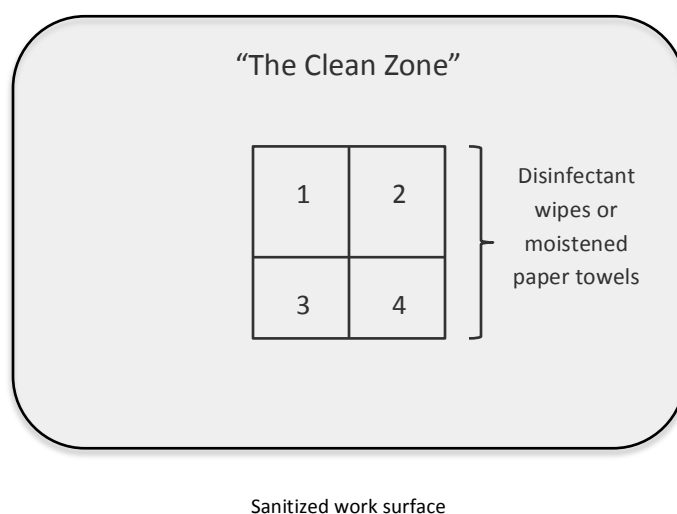

Fig 1. Illustration of a “Clean Zone” prepared for constructing the photobioreactor
12. Cut-to-length (Figure 1, A):
13. Prepare the vent. (Figure 1, A and B). Pinch and remove a small piece of cotton, and using a sterile toothpick, force (stuff) the cotton approximately 1 in. into the tubing.
15. Take the tip of the aeration tube and forcefully insert the tubing through one of the previously-made holes in the bottlecap and feed approximately 1.5 ft of tubing through the cap and attach a sterile airstone to the tubing inside the bottle (Figure 1, C).
Figure 1. Construction basics for an algal bioreactor: (A) materials per reactor; (B) vent; (C) assembled components – vent, bottle cap, and aeration tubing with attached airstone; and, (D) bioreactor upon completion, ready for algae.